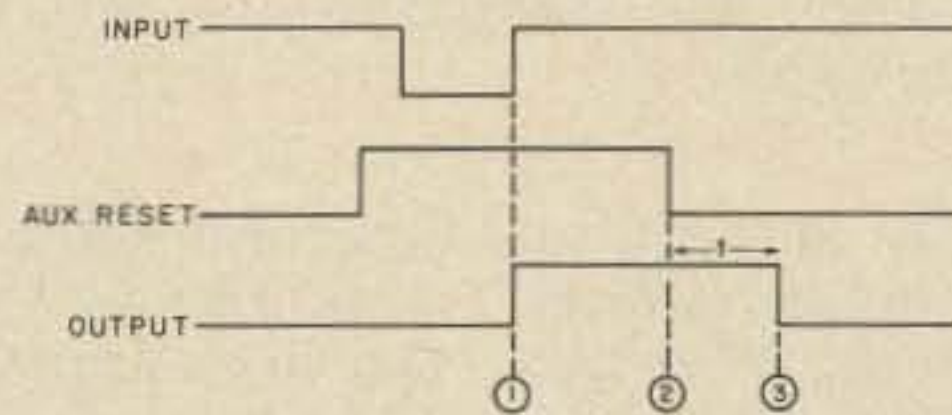

Fig. 4. Timing diagram for Fig. 3.
The timing diagram for this circuit is shown in Fig. 4. Note that the output switches to a logic "1" voltage at time (1), the trailing edge of the input pulse. However, the timing cycle does not actually commence until the auxiliary reset input returns to a logic "0" at time (2). The output then returns to a logic "0"  $t$  seconds later as determined by the values of  $C_t$  and  $R_t$ .